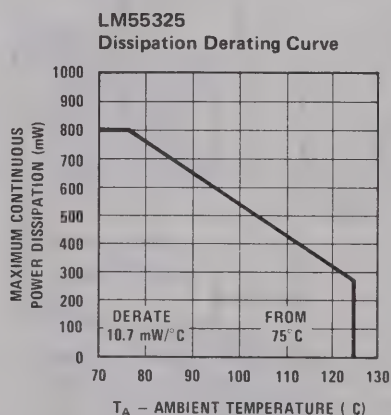

FIGURE 12. Thermal Information
**Note 2:** For operation of LM55325 above +70°C free-air temperature, refer to Dissipation Derating Curve (Figure 12).